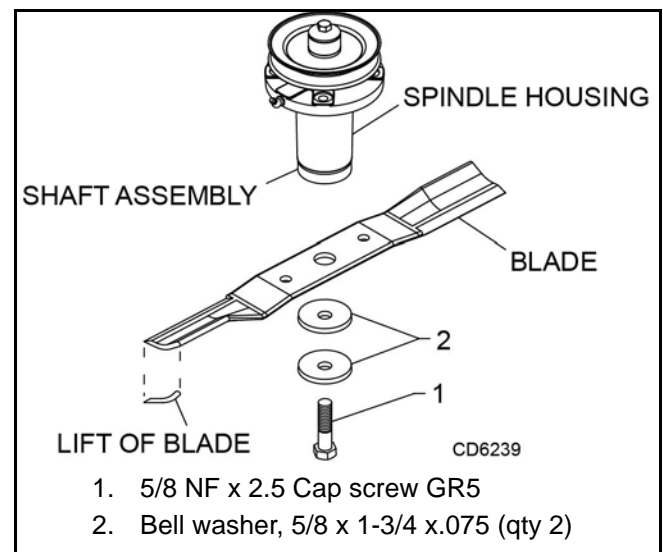

Figure 19. Blade and Spindle Assembly
1. Remove bolt (1), Figure 19, which has right hand threads.
2. Remove washer (2) and blade.
NOTICE: When installing blade, the lift of the blade must be toward the spindle blade housing as shown in Figure 19. Torque bolt (1) into shaft assembly to 100 lbs-ft.
2. Place Belleville washer (2) over blade and insert blade bolt (1). Torque blade bolt to 100 lbs-ft.